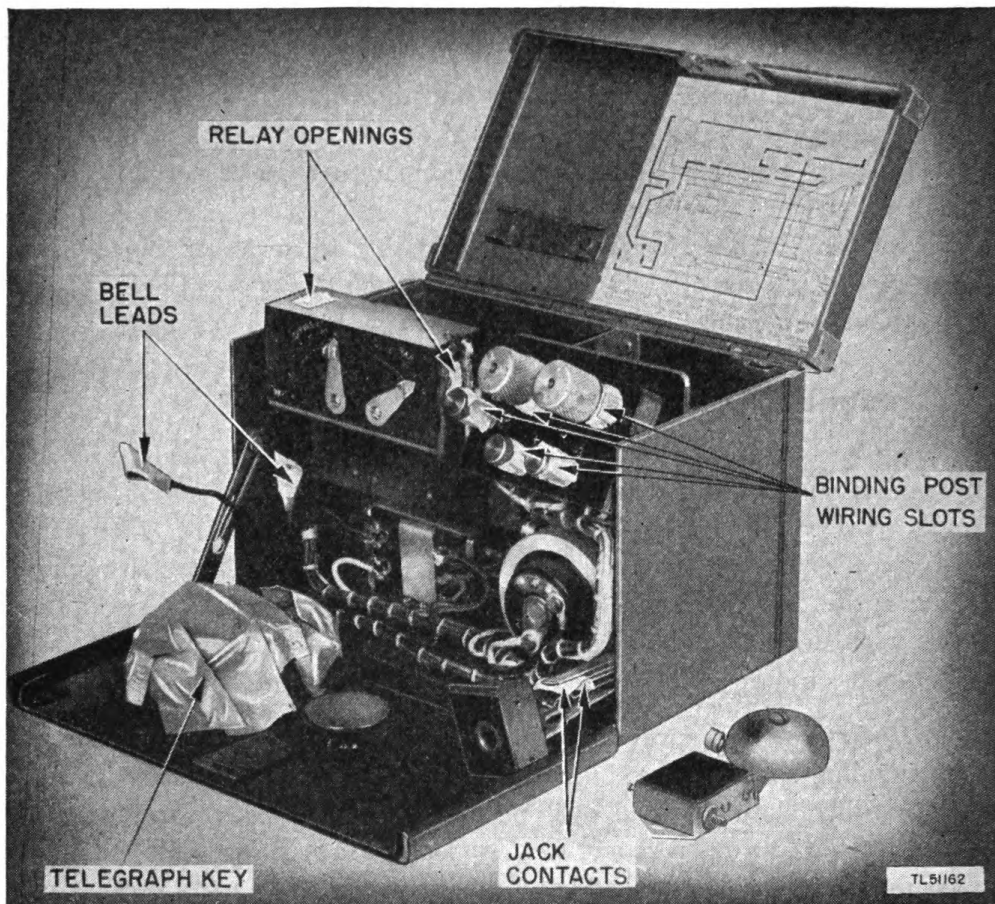

Figure 21. Telegraph Set TG-5-A disassembled and masked.
b. DISASSEMBLY. (1) Raise the cover of the telegraph set and open the front panel.
(2) Remove the bell and disconnect the attached leads.
(3) Remove the two screws which hold the jack mounting to the right side of the case, and pull jack forward. Do not disconnect the wiring.
(4) Remove the screws from the binding post mounting plate and expose the back of the plate. Do not disconnect the wiring.
(5) Remove Battery BA-2 from the line battery compartment.
(6) Open the door to the rear battery compartment and remove the two Batteries BA-30. The batteries are not to be treated.
d. MASKING (fig. 21). Cover the following parts with masking tape:
(1) Telegraph key.
(2) Spring and key contacts of jack.